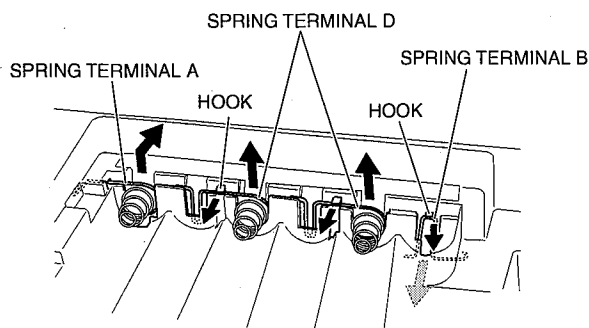
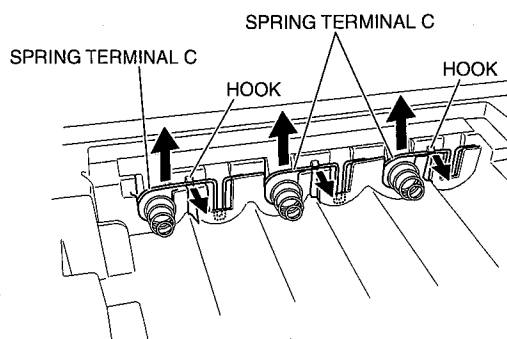

Fig. 13
Fig. 14
- 15-1-6. Lift the spring terminal A a little and slide it in the upper right direction to remove it. (Fig. 13)
- 15-1-7. Remove the hook for the spring terminal B to pull it out from inside. (Fig. 13)
- 15-2-2. Remove the hooks to pull out the spring terminal C and spring terminal D. (Fig. 13, Fig. 14)